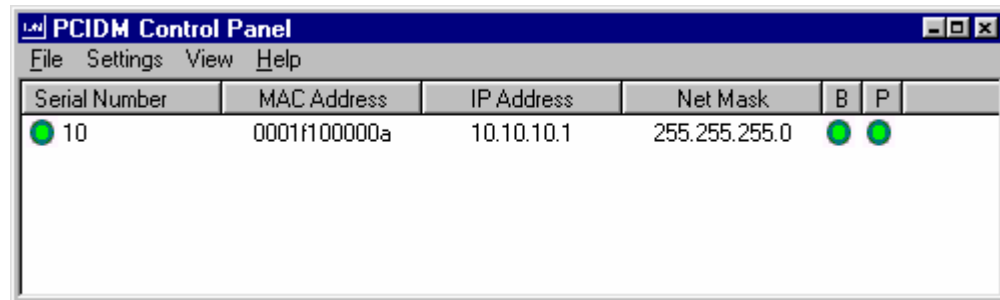

Figure 4: PCIDM Control Panel
The PCIDM Control Panel includes three indicators in color which show the status of the PCIDM. The PCIDM Control Panel is shown in Figure 4.
14. Double click the first PCIDM in the list (see Figure 4).
16. Double click the first PCIDM in the list (see Figure 4).